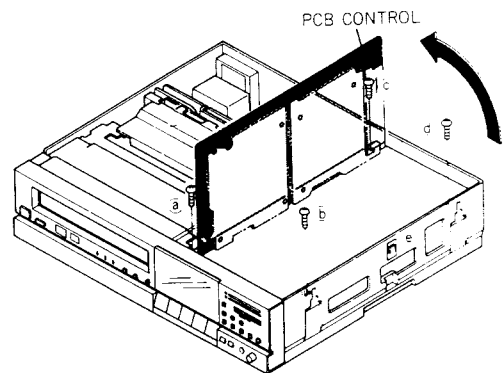

Fig. 2-5
- 2) Remove the four screws (a), (b), (c) and (d) retaining the PCB CONTROL as shown in Fig. 2-5.